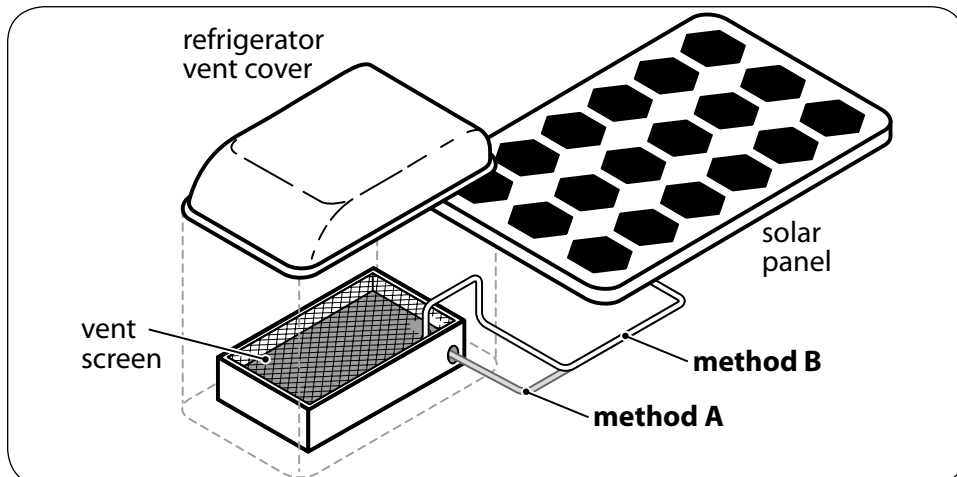

Fig. 7.3. PV extension entry through RV Vent
5. The wire pair from the solar panel can be routed to the interior of the RV through the roof-top refrigerator vent. Find where the refrigerator vent is located on the roof of the RV. See Fig. 7.3.